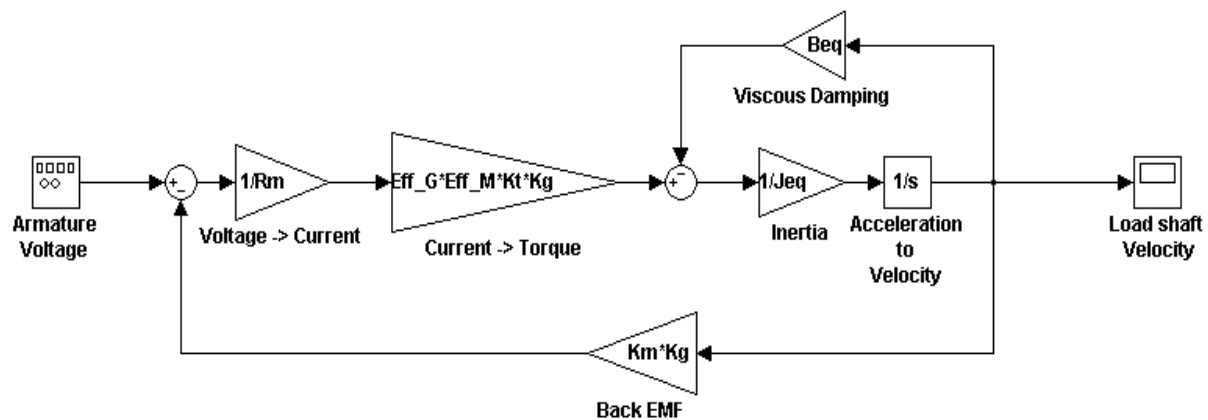

Figure 2 - Block Diagram of the SRV02 Plant
Figure 2 below is a Simulink block diagram mapping the different stages of the system, each with their corresponding gains and conversions.
- 2) Is the transfer function you derived using Figure 2 the same as the above transfer function of equation [3.8]?
In Simulink, open a model called “*s_tacho_lead.mdl*”. This model includes the plant model *SRV-02 Plant Model* (same as **Figure 2**), as a block in the final closed loop form. Use this model to simulate your controller.